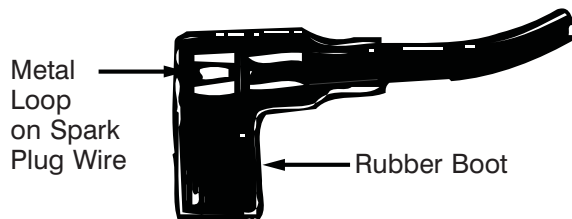

Figure 11
- Attach spark plug wire to spark plug. If unit is equipped with a rubber boot over the end of the spark plug wire, make certain the metal loop on the end of the spark plug wire (inside the rubber boot) is fastened securely over the metal tip on the spark plug. See Figure 11.